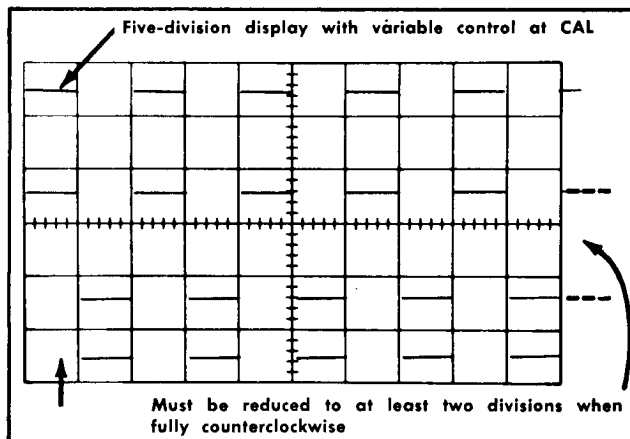

Fig. 5-3. Typical CRT display showing correct Channel 1 and 2 VARIABLE control range (double exposure)
- c. CHECK-Turn the Channel 1 VARIABLE control fully counterclockwise (minimum gain). Display should be reduced to two divisions or less (indicates adequate range for continuously variable deflection factors between the calibrated steps; see Fig. 5-3); Channel 1 UNCAL light must be on when the Channel 1 VARIABLE control is not in CAL position.
- e. CHECK-Turn the Channel 2 VARIABLE control fully counterclockwise (minimum gain). Display should be reduced to two divisions or less (indicates adequate range for continuously variable deflection factors between the calibrated steps; see Fig. 5-3). Channel 2 UNCAL light must be on when Channel 2 VARIABLE control is not in CAL position.